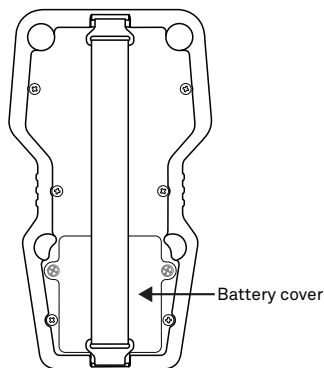

**Figure 23** Battery cover
1. Turn the TEMPOS controller over and locate the battery cover in the lower section of the back panel (Figure 23).